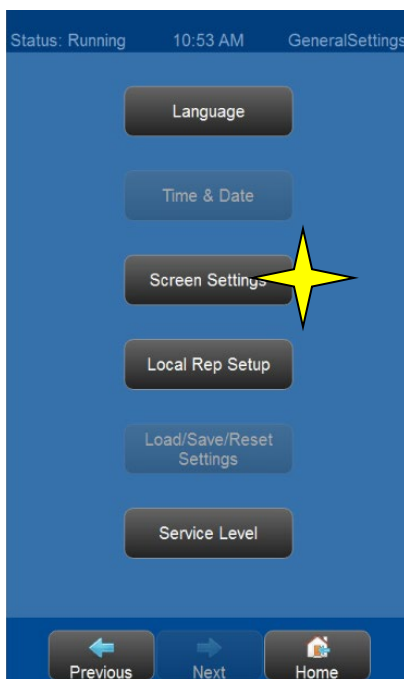

Figure G-1:
- 3) Next, press <SCREEN SETTINGS> to access the “SCREEN SETTINGS” menu **[Figure G-1]**.